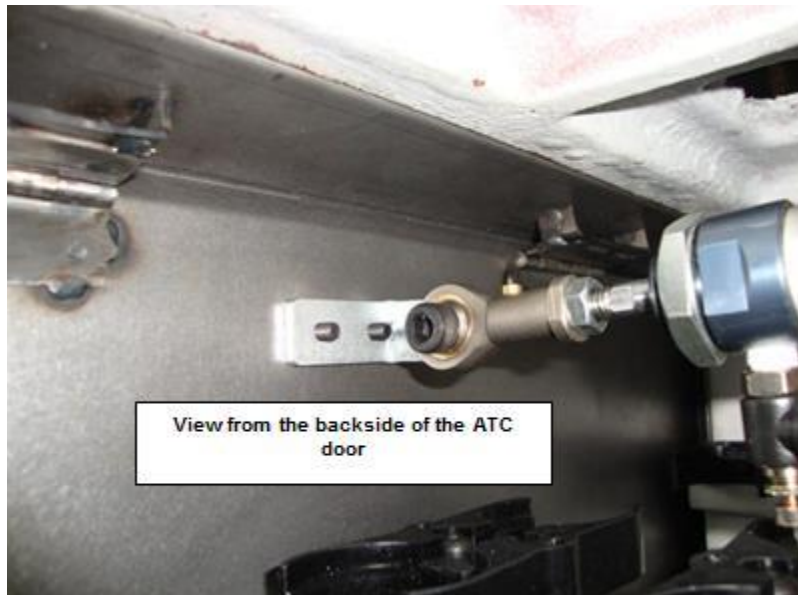

Figure 6.7b View from the backside of the ATC door
- b. Remove the ATC door by removing the four BHCS that secure the door flange to the column. Disconnect the door from the air cylinder at the pivot bolt. See figure 6.7b.
- iii. Lower the head, remove the upper sheet metal cover to access the upper (2) screws that secure the Z-axis ballscrew cover (frame) to the column.